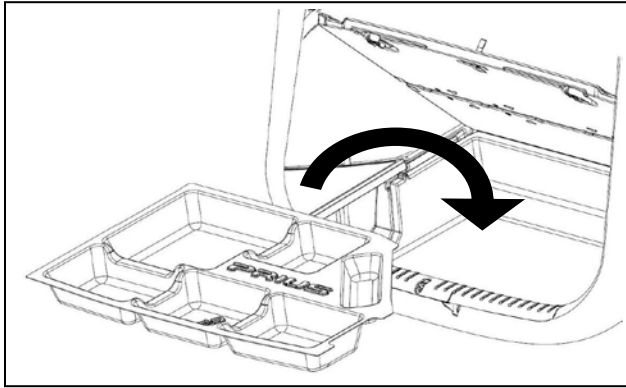

Fig. 1-3
- (c) Orient sub-floor organizer so the shape matches the under floor compartment. Insert sub-floor organizer into the compartment. (See Fig. 1-3)